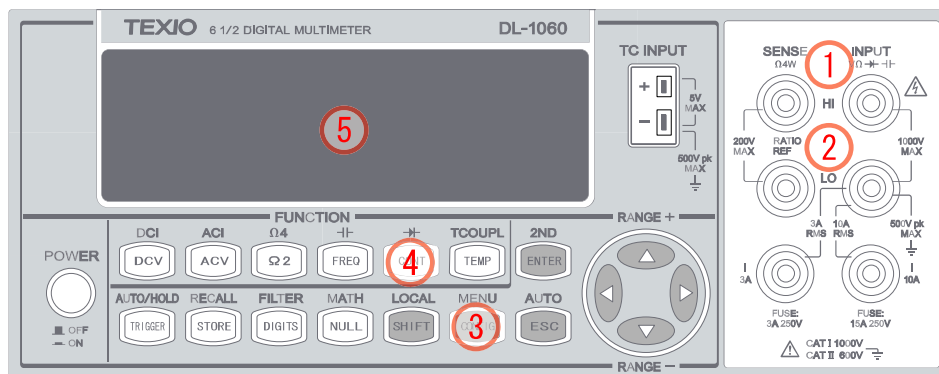

Figure 2-8
1. Connect the test leads to the terminals on the front panel as shown in **Figure 2-8**.